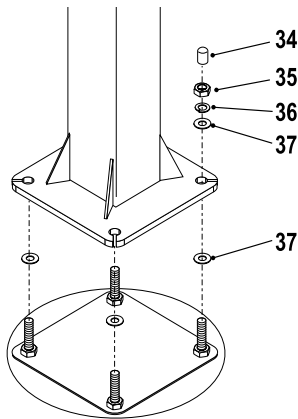

Figure 8
- Put a flat washer (#37) on each anchor bolt. Lift post onto anchor system and secure with one flatwasher (#37), one lock washer (#36) and one hex nut (#35) for each anchor bolt. See Figure 8. Tighten all four hex nuts tight.